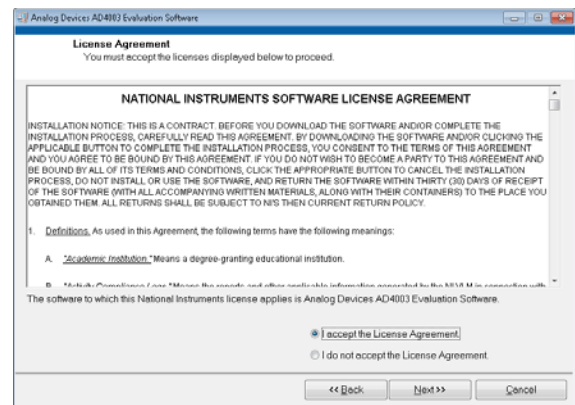

Figure 6. **License Agreement Window**
3. Accept the National Instruments software license agreement and click **Next** (see Figure 6).